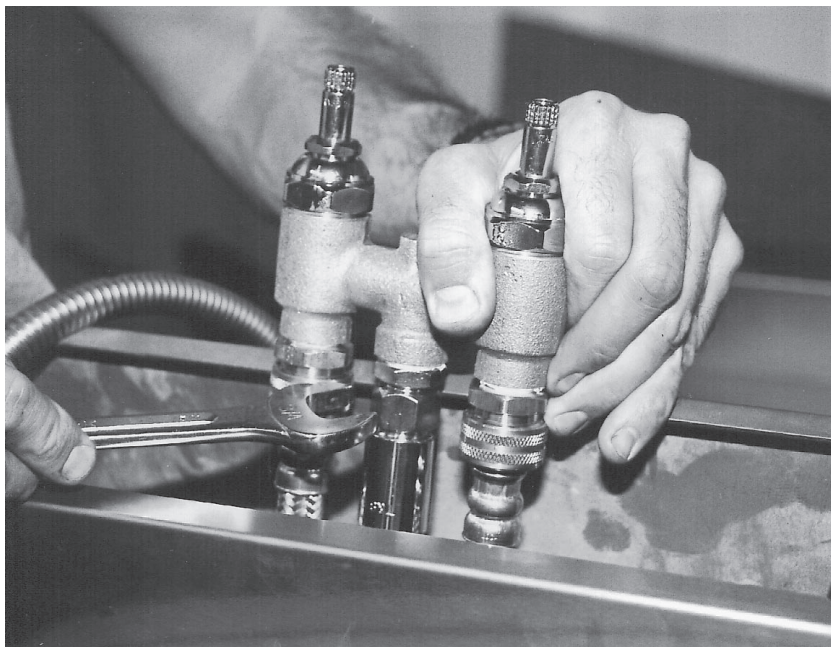

Fig. 56
9. With a $\frac{3}{4}$ " wrench, disconnect the spray hose water line attached to the cast iron faucet body. (Fig. 56)